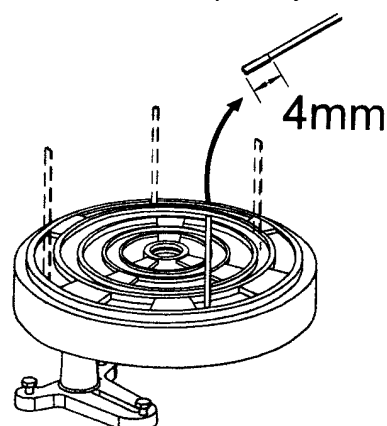

Fig.23
4. Check the oil in the burner rings. The oil level should be 4mm. (See Fig. 23). If the level is greater than required, the control valve should be lowered. The control valve bracket can be moved up and down by loosening the M4 lock nuts. If the level is less than required, the control valve should be raised until the oil level is correct. Each time an adjustment is made, the oil in the central reservoir and burner rings should be soaked up with absorbent paper and the filling process repeated.